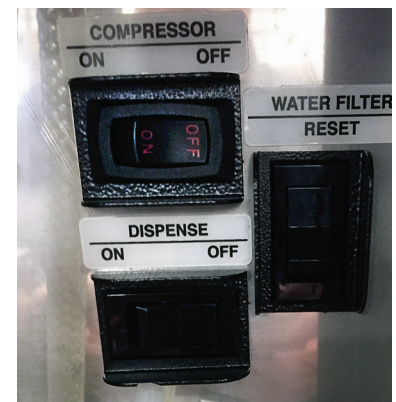

Figure 1
3. Confirm that the compressor switch and the dispense switch are in the OFF position (see Figure 1).